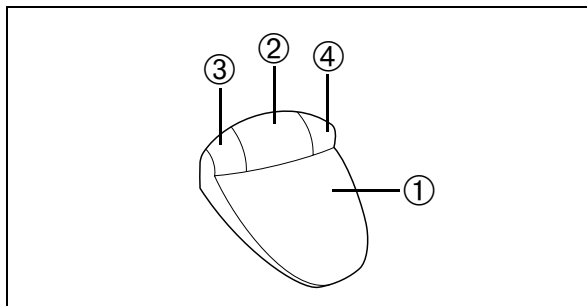
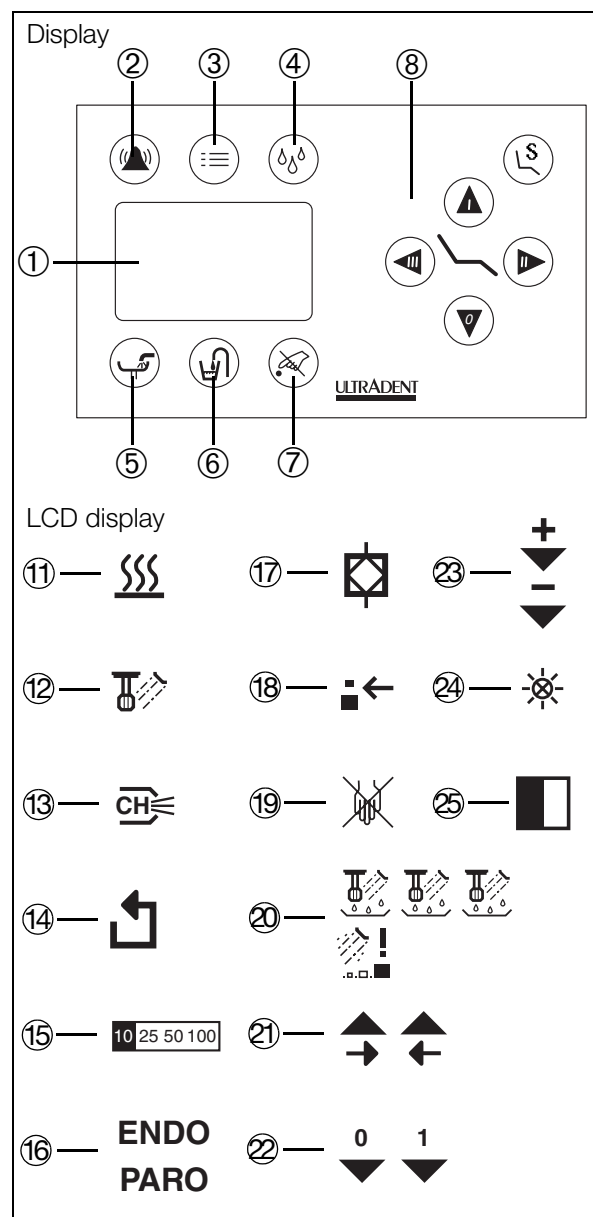

Fig. 57
Fig. 58
- Briefly tap the button ③ (Fig. 57) and repeat if necessary until the PARO display ⑮ (Fig. 58) is continuously lit.
The ⑮ (Fig. 58) ENDO/PARO setting influences the output power of the handpiece, and must be set precisely in line with the tips used.